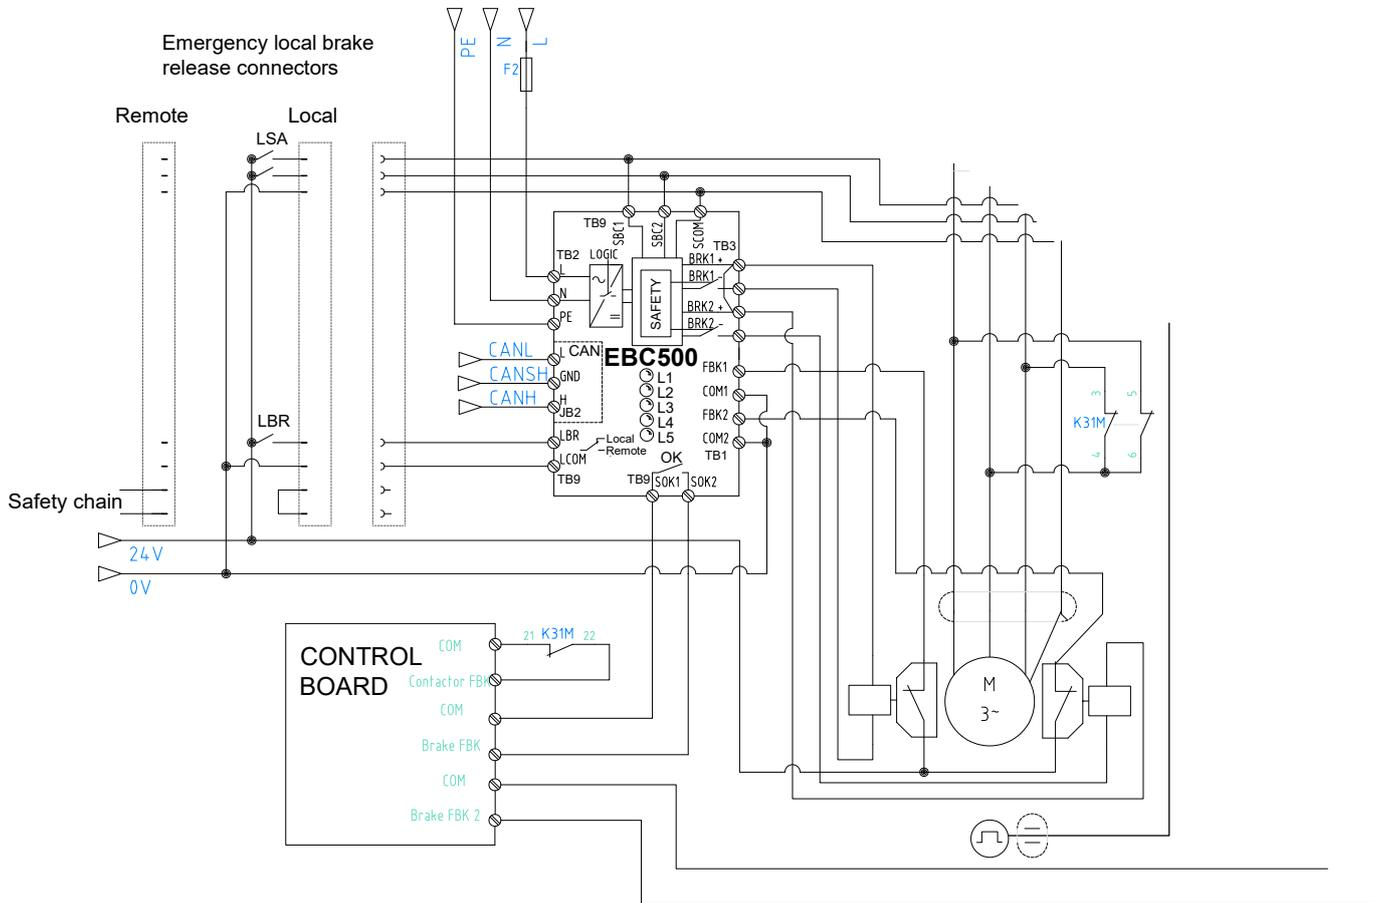

Figure 8.7.1: Diagram of a possible auxiliary circuit for local brake activation.
**To manage emergency brake opening manoeuvres with the ADL550 locked, a double terminal block and a connector must be arranged in the operating panel; depending on the normal or emergency or local/remote operating mode, this enables local powering of the EBC by pressing a button that activates the safety inputs and a button that activates the Local input (SS\_IN) - see fig 8.7.1.**